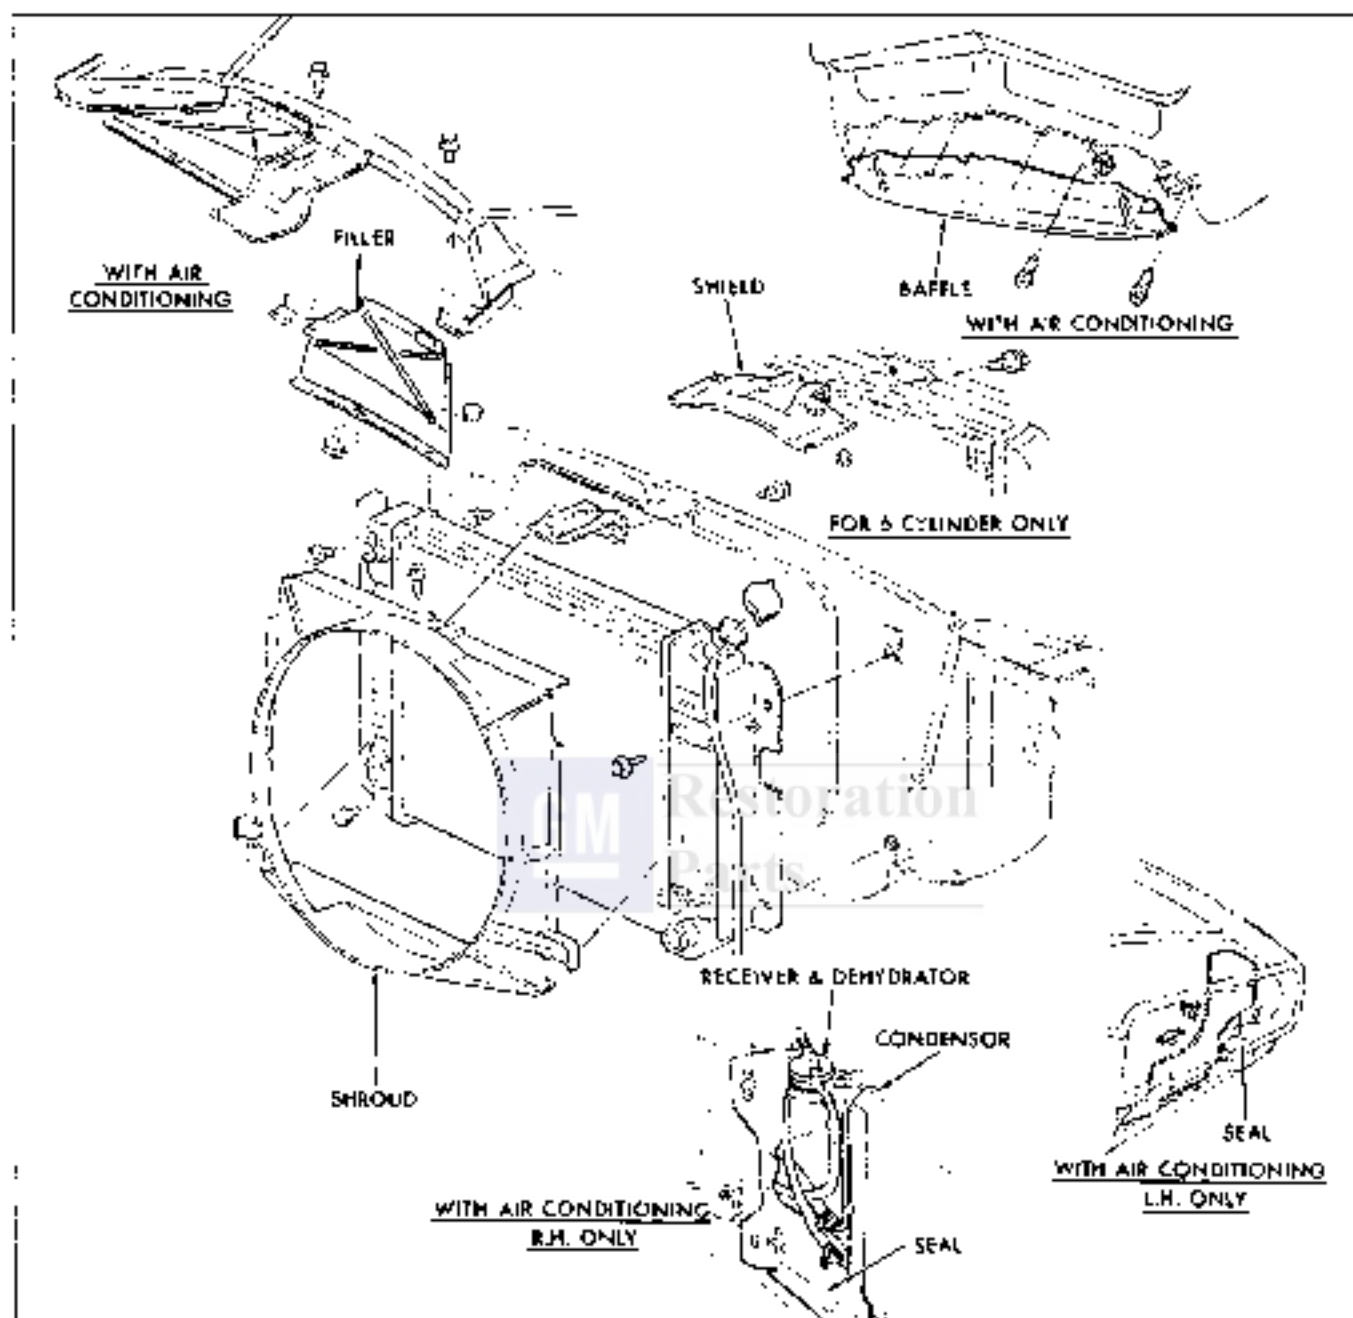

Fig. 6A-3 Radiator Support and Baffle Assembly - Firebird
1. Turn the filter counterclockwise to unscrew filter from base (Fig. 6A-4 and 5).